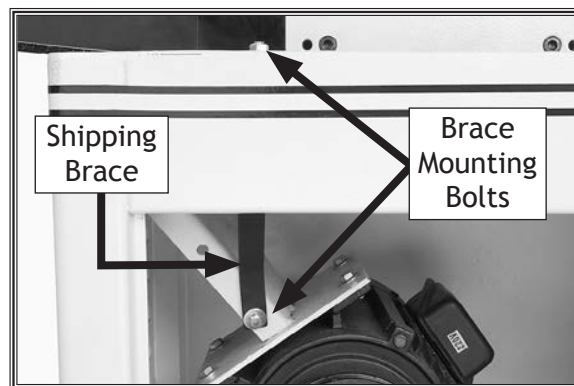

Figure 10. Shipping brace.
4. Remove the shipping brace shown in **Figure 10**, reinstall fasteners in the brace, and save it for possible later use.